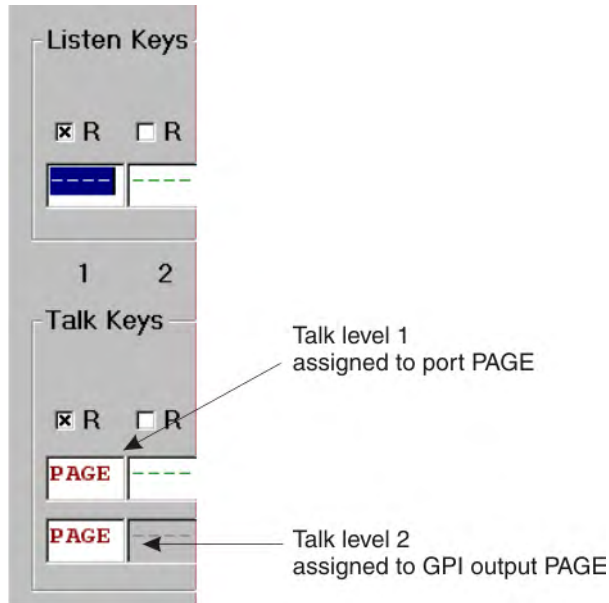

FIGURE 28. An example of a stacked talk key.
- Create a stacked talk key at a specific keypanel. Figure 28 shows an example of a stacked talk key. The advantage of this approach is that you can control access to the paging output on a keypanel-by-keypanel basis. The disadvantage is that you must set both talk level 1 and 2 on every keypanel that needs to access the paging amplifier.